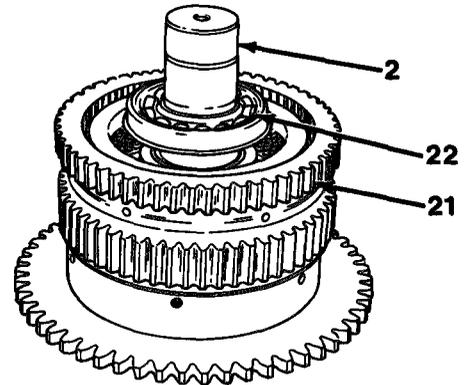

Figure 11-13
13. Install gear and hub welded assembly (21) over bearing (22) on clutch shaft assembly (2, Figure 11-13) by tapping lightly on gear and hub welded assembly (21) with a soft-faced mallet.